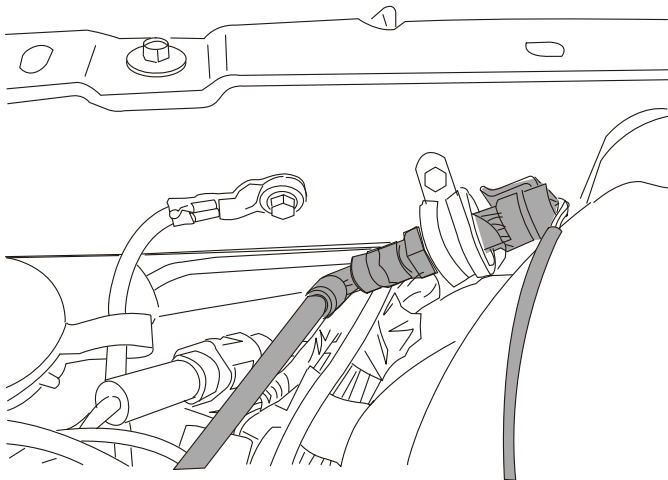

Figure 4.6
- Mount the pressure transducer to the inner fender using a p-clamp (Figure 4.6). Position the clamp and the transducer to clear the hood gas strut when the hood is closed.